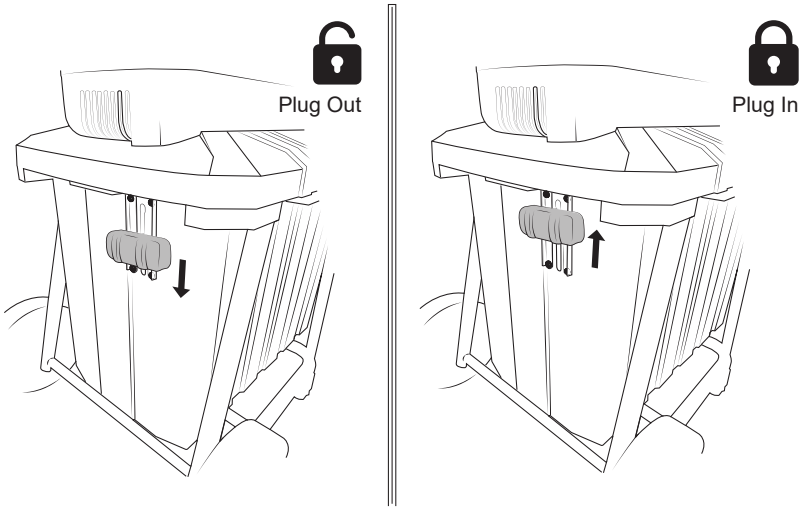

Fig 6
7. Push the collection box pin up is lock the box , down is open the box, See Fig 6.
- a) Make sure the collection box pin is locked, See Fig. 6: